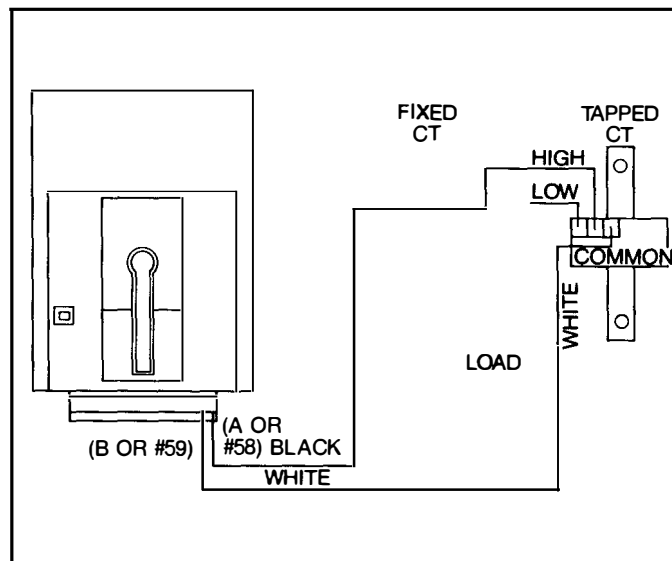

Figure 17.
4. Programmers providing the ground fault function must also have the tap setting changed on the tapped neutral CT (4 wire systems). Change the black wire lead from the HIGH (LOW) terminal to match the desired tap setting of the breaker frame (Figure 17).
Wire as shown in Figure 17.